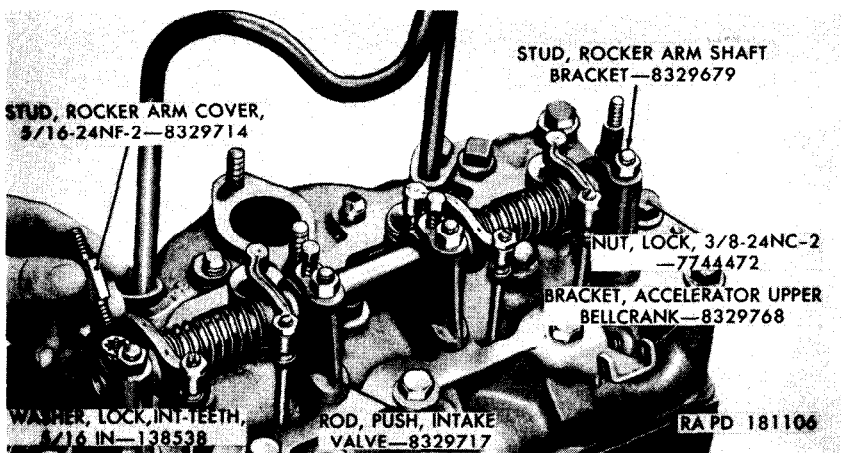

Figure 95. Installing rocker arm cover studs.
b. Install the rocker arms and shaft assembly on the four rocker arm shaft bracket studs (fig. 14). Remove the two temporarily installed rocker cover studs (par. 58e). Using one $\frac{5}{16}$ -inch internal teeth lock washer (fig. 95) between each stud and rocker arm shaft bracket, install the studs so that the short threaded ends enter the tapped holes in the brackets. Install four $\frac{3}{8}$ -24NC-2 lock nuts on the rocker arm shaft bracket studs. Tighten the nuts to 30 to 36 pound-feet torque.